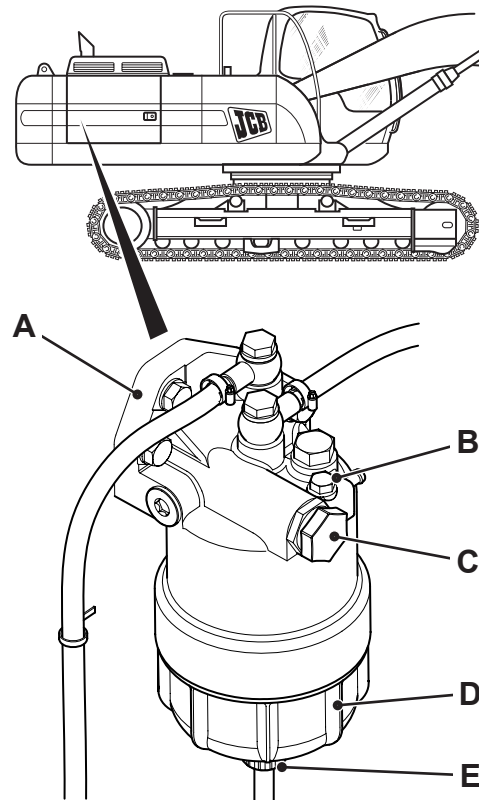

Fig 55.
- 2 Locate the fuel filter A, ⇒ Fig 55. \(□ 3-79\).
- 2 Locate the fuel filter **A**, ⇒ Fig 55. \(□ 3-79\).